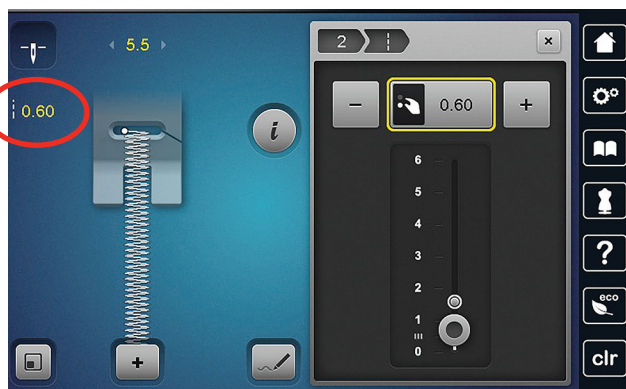

Fig. 4
3. Select Stitch Length. Decrease the stitch length to .6 mm (Fig. 4). Notice how the number is now yellow. Any changes made to the default settings will be yellow.